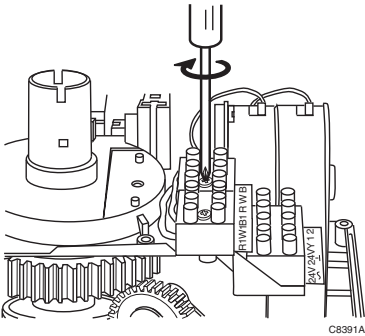

Fig. 4. Installing terminal block and label for potentiometer.
5. Install terminal block and label for potentiometer. See Fig. 4.